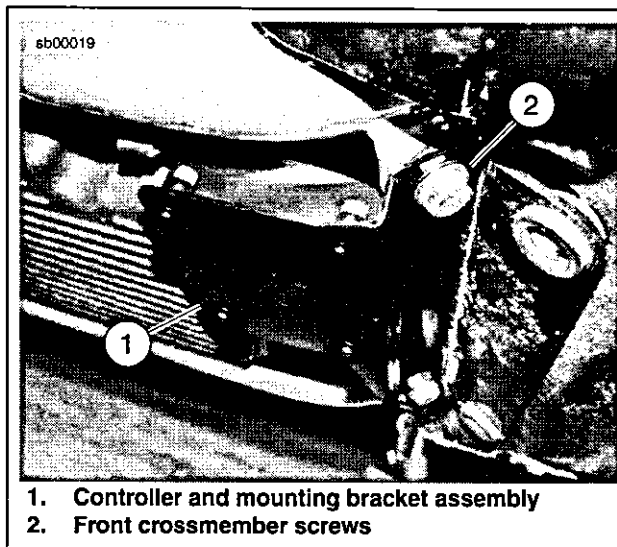

Figure 2. Mounting Bracket Installed
2. See Figure 2. Remove front crossmember screws (2) and slowly lower controller and mounting bracket away from motorcycle.
9. See Figure 2. Install controller and mounting bracket assembly (1) to motorcycle using front crossmember screws (2) removed earlier. Tighten screws to 20-26 Nm (15-19 ft-lbs).